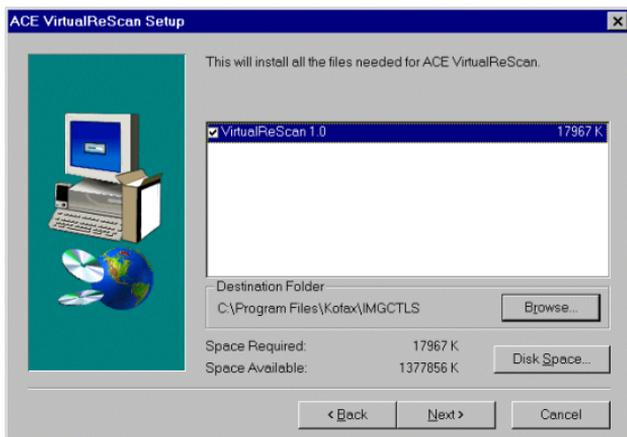

Figure 3. ACE VirtualReScan Setup Dialog Box 2
- 4 Click Next to open the next ACE VirtualReScan Setup dialog box, similar to Figure 3. Verify that VirtualReScan is selected, along with the correct installation folder. The default folder is C:\Program Files\Kofax\Imgctl. If desired, use the Browse button to select another installation folder.